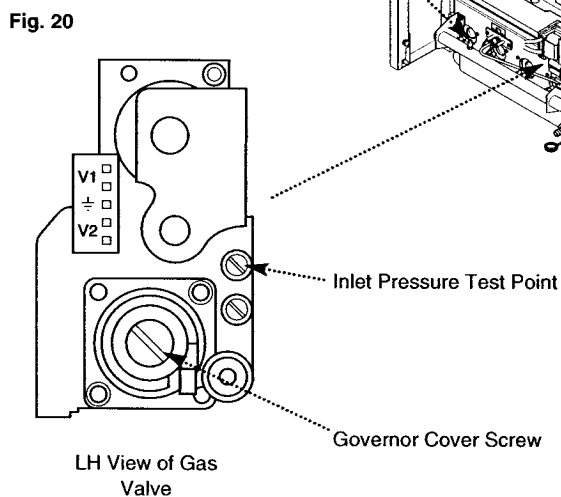

Fig. 20
5. If necessary adjust the pressure by removing the gas valve governor cover and turning the screw to achieve the required pressure (Fig. 20).